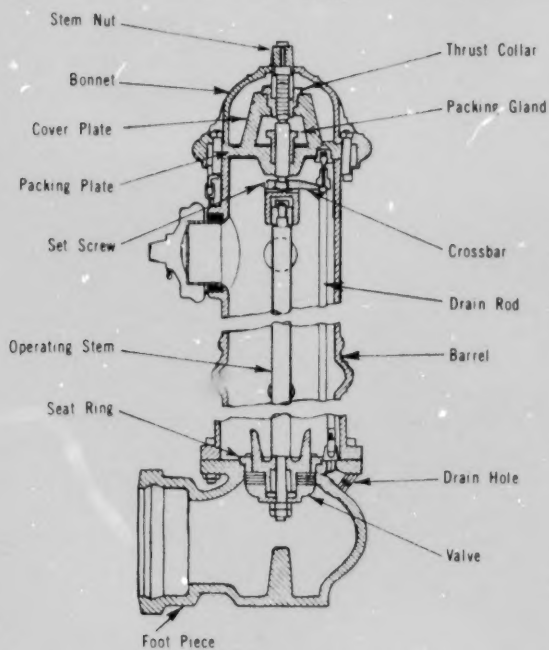

Figure 28-2. Compression-Type (B) Hydrant
d) To disassemble a compression-type (B) hydrant (Figure 28-2) shut off the water, open the hydrant wide, unbolt and lift off the bonnet. Unbolt the cover plate. Turn the stem nut in open direction until it engages the operating stem; at the same time, hold the cover plate from turning. Lift off the cover plate, thrust collar, and stem nut as a unit. Unscrew the thrust collar and remove the stem nut from the cover plate. Lift out the drain rod, loosen the set screw, and remove the cross bar. Insert the socket-key wrench into the barrel over the operating stem and screw down tightly against the tip of the wrench. Turn the wrench counter-clockwise to unscrew the seat ring. Lift out the wrench and valve mechanism. Re-assemble in reverse order.